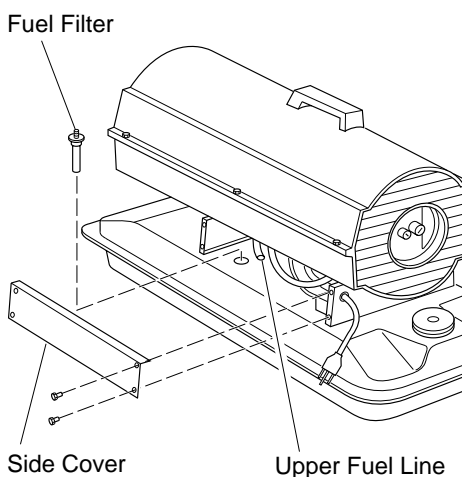

Figure 8 - Fuel Filter Removal
3. Remove 4 side cover screws with a 5/16" nut driver. Remove side cover (see Figure 8).
12. Replace side cover (see Figure 8).
14. Place fine grade sandpaper (600 grit) on flat surface. Sand rotor lightly in "figure 8" motion four times (see Figure 16).